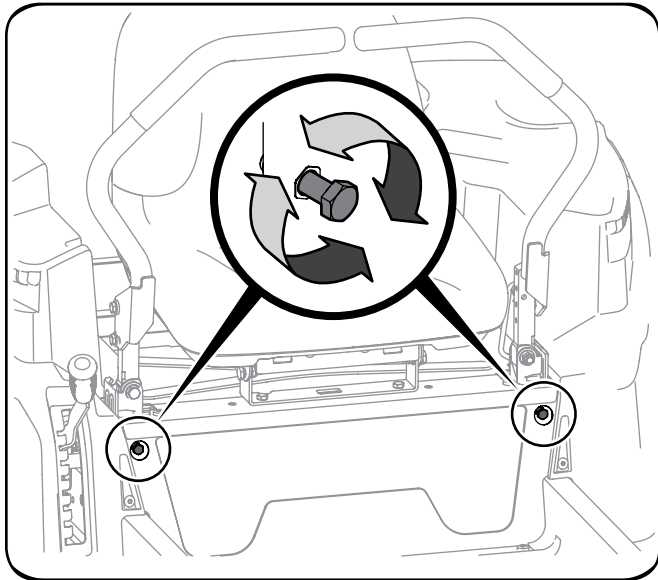

Figure 35
2. Locate the drive control lever stop adjustment bolts on the front of the seat frame. See Figure 35.